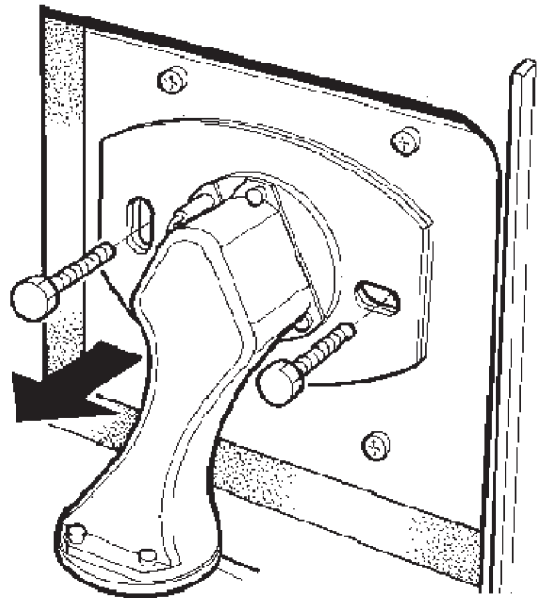

FIG. 16
5. Unscrew burner locking nuts (2). (See Fig. 16)